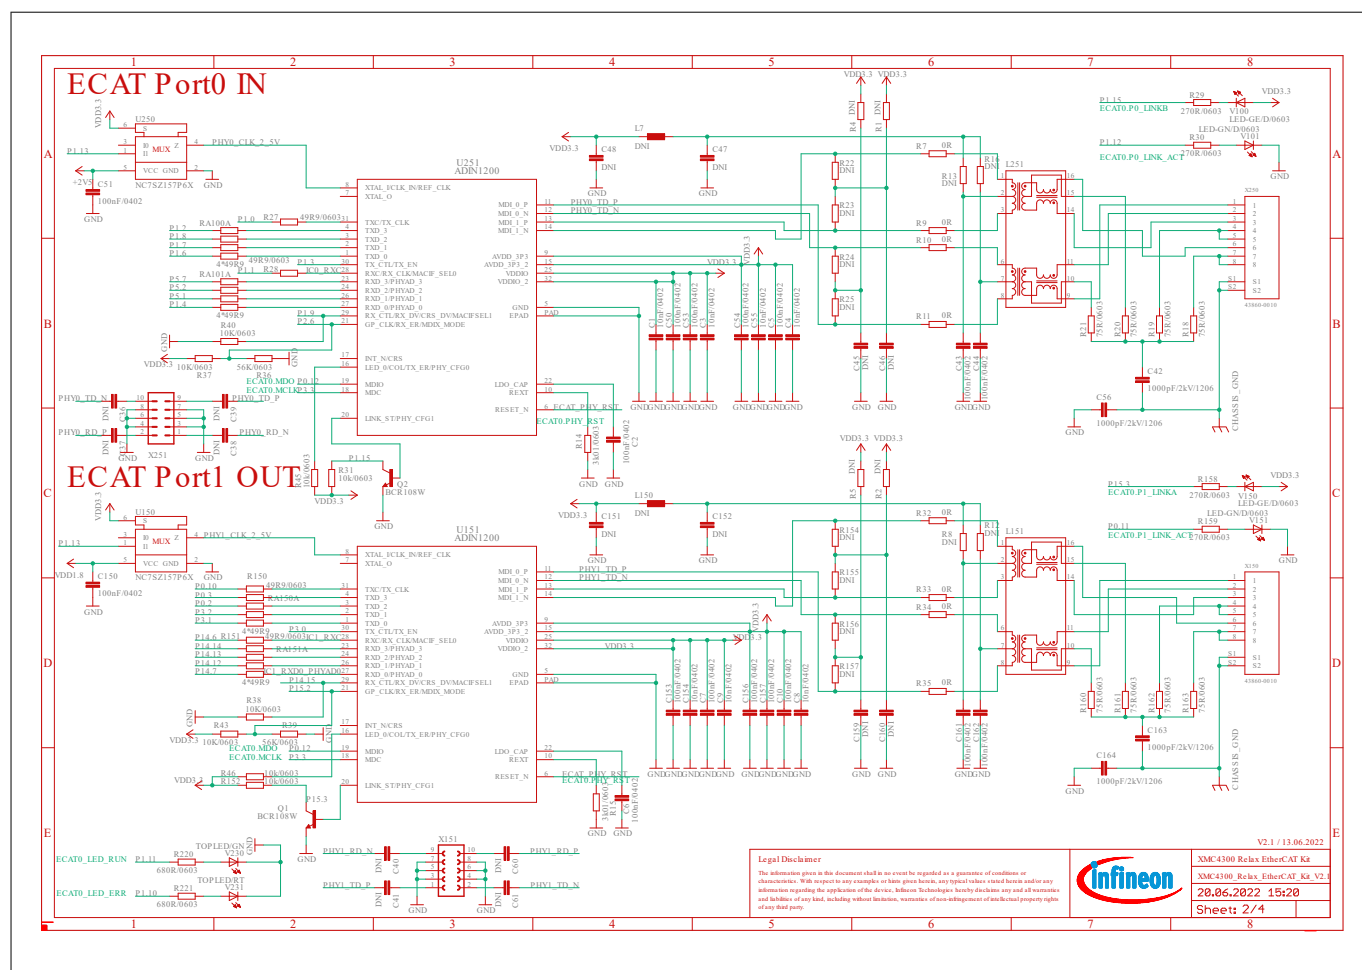

Figure 18 EtherCAT® Phys, Magnetics, Phy-2-Phy (See Revision 1.2)
- Figure 18 (See Revision 1.2)